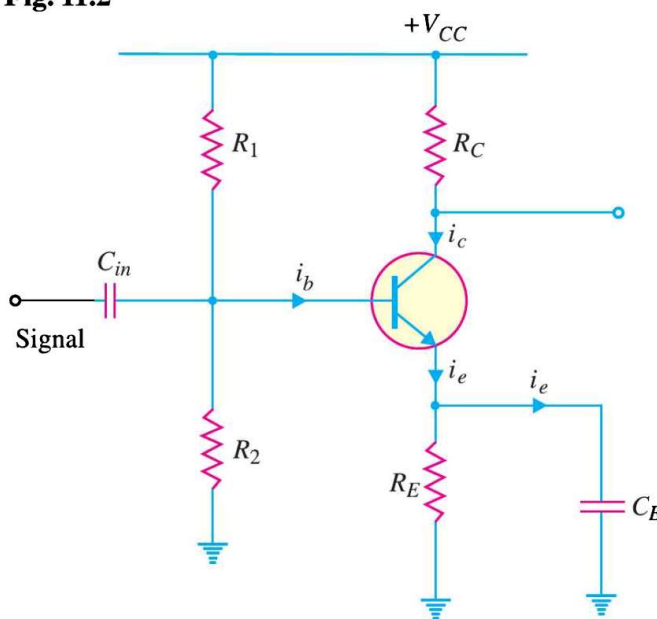

Fig. 11.3
**2. As bypass capacitors.** Like a coupling capacitor, a bypass capacitor also blocks d.c. and behaves as a short or wire (due to proper selection of capacitor size) to an a.c. signal. But it is used for a different purpose. A bypass capacitor is connected in parallel with a circuit component (e.g. resistor) to bypass the a.c. signal and hence the name. Fig. 11.3 shows a bypass capacitor  $C_E$  connected across the emitter resistance  $R_E$ . Since  $C_E$  behaves as a short to the a.c. signal, the whole of a.c. signal ( $i_e$ ) passes through it. Note that  $C_E$  keeps the emitter at a.c. ground. Thus for a.c. purposes,  $R_E$  does not exist. We have already seen in the previous chapter that  $C_E$  plays an important role in determining the voltage gain of the amplifier circuit. If  $C_E$  is removed, the voltage gain of the amplifier is greatly reduced. Note that  $C_{in}$  is the coupling capacitor in this circuit.